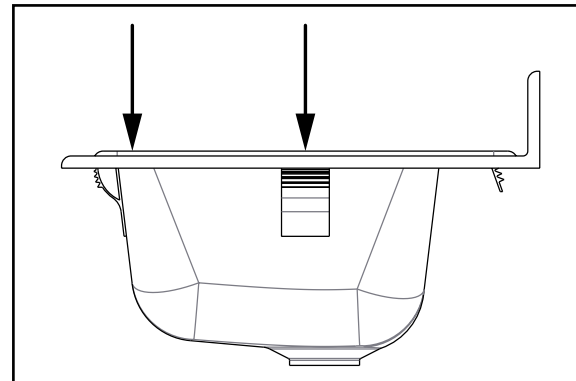

FIGURE 4. Push down on the front of the sink.
- Push down to ensure sink rim fully rests on countertop. (Fig. 4)